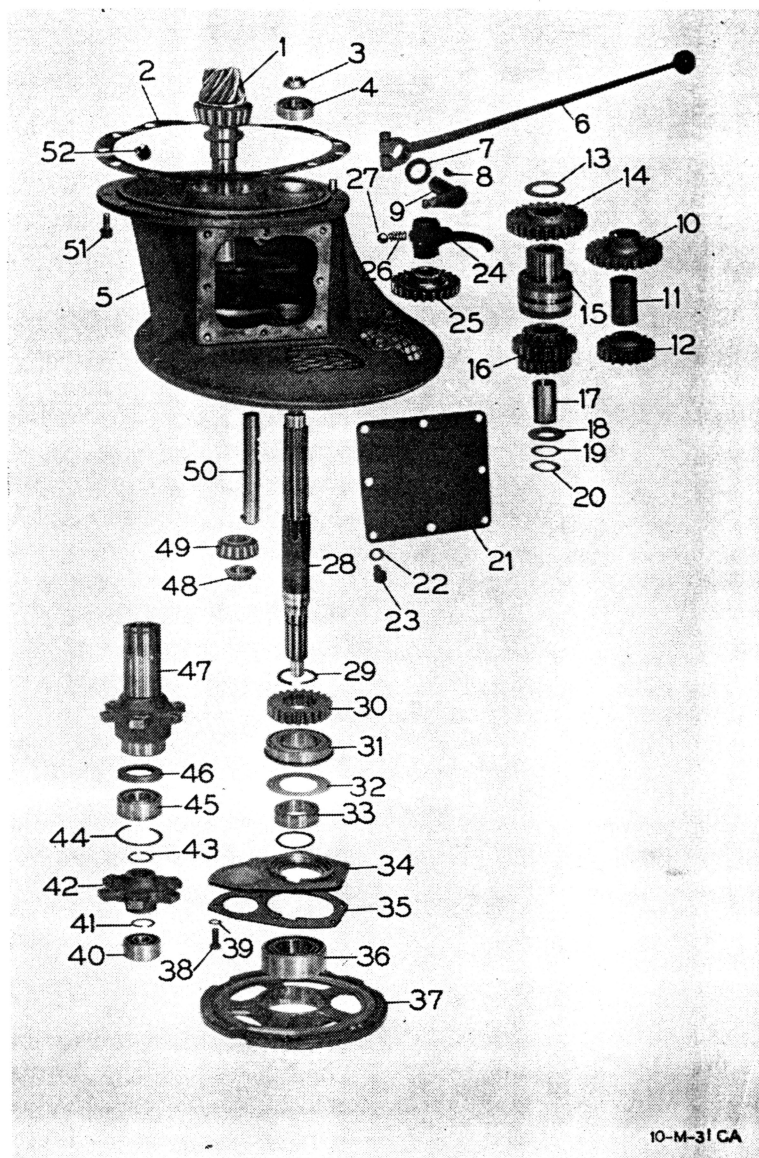

Fig. 137
(See Fig. 137)
- E. Pinion shaft high and low shift hub (15)
- F. Pinion shaft low range gear (14)
4. Remove pinion shaft front bearing from transmission case. Ref. 49, Fig. 137.
#### TRANSMISSION REASSEMBLY (See Fig. 137)
(See Fig. 137 for References)